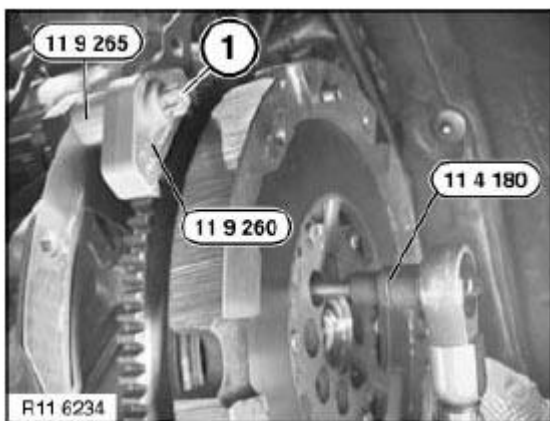

Fig. 132: Identifying Special Tools
Secure flywheel with an old transmission screw (1) and special tools 11 9 260 and 11 9 265. See **Fig. 132**.